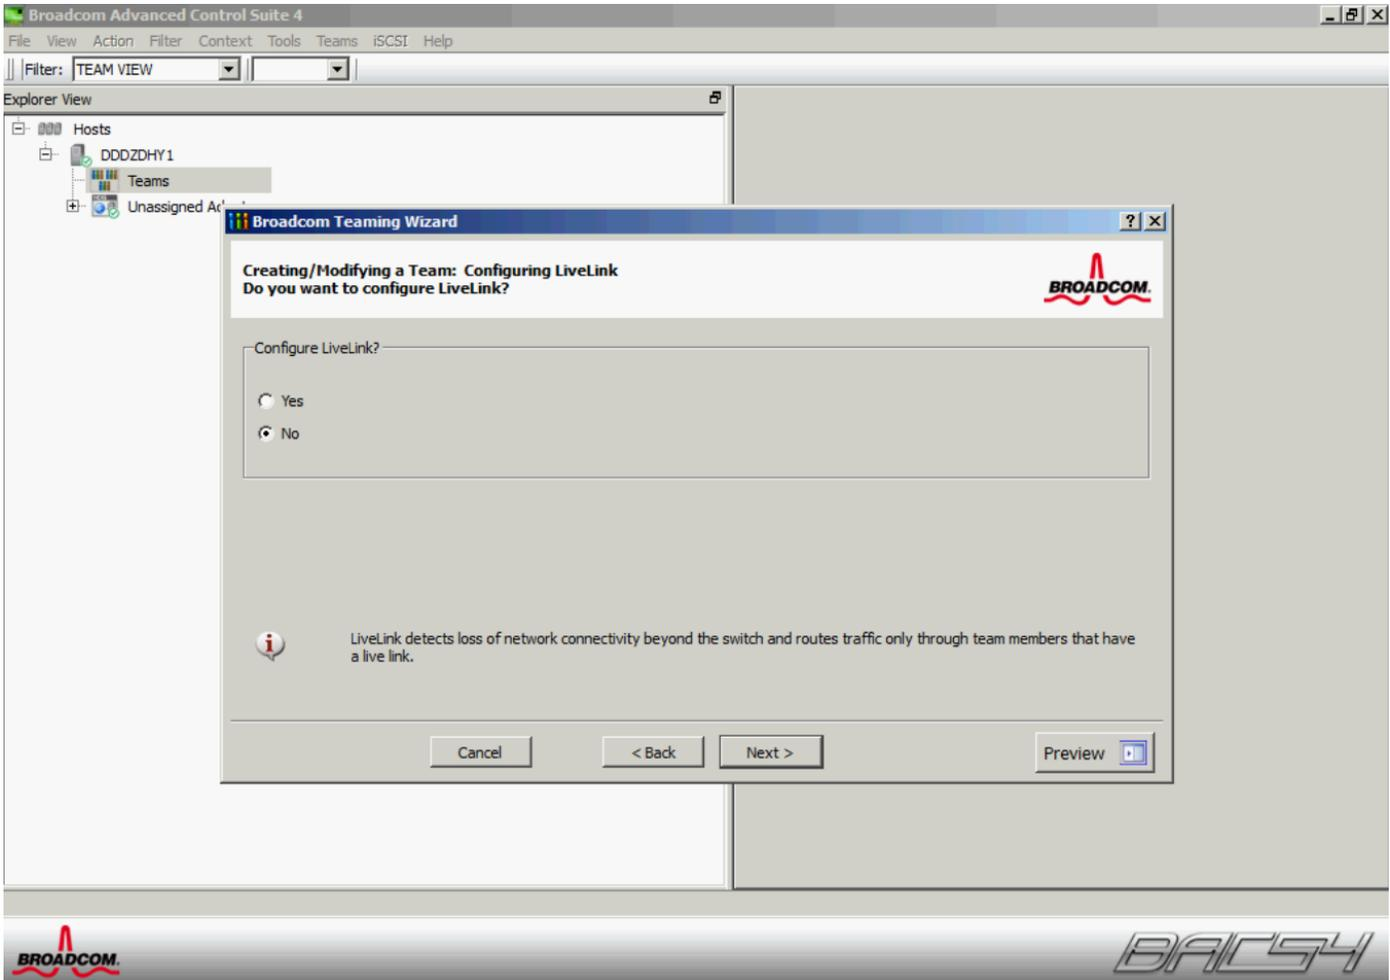

Figure 18 Selecting 'No' for Broadcom LiveLink feature
12. Broadcom LiveLink is a feature that minimizes any downtime due to spanning tree loop determination when failing-over. In this setup, the ports connected to the server will be configured as edge ports and not participate in spanning tree so this option is left at the default of disabled (Figure 18). Click **Next**.